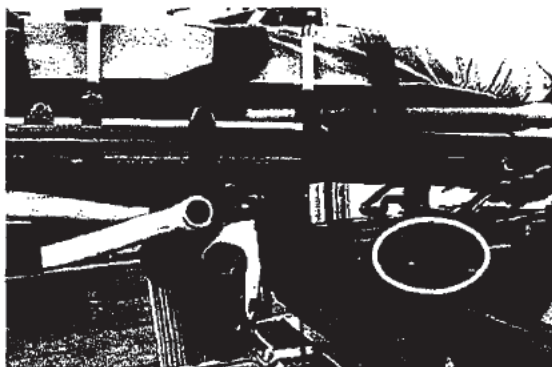

Figure 40
7. Press the down (↓) button on the Power-LOAD control panel to lower the lifting arms and cot as shown in Figure 40.